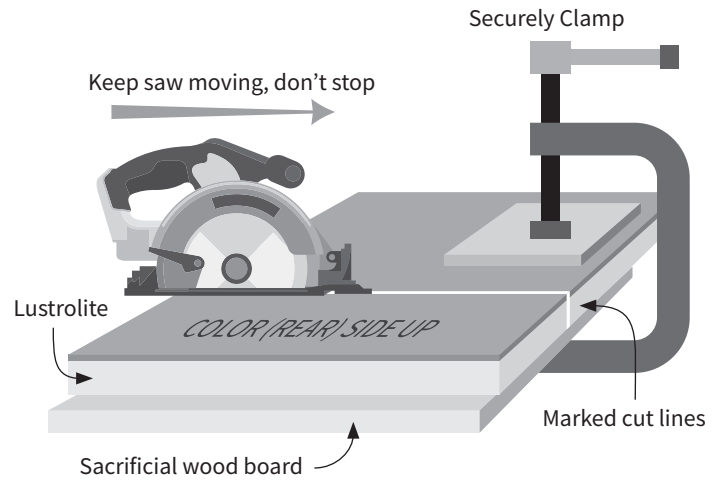

Figure 7: Cutting with Power Saw
- Clamp sacrificial wood board underneath Lustrolite when using power saw or jig saw to prevent bowing, vibration and chipping of the clear face side (Figures 7 and 9)